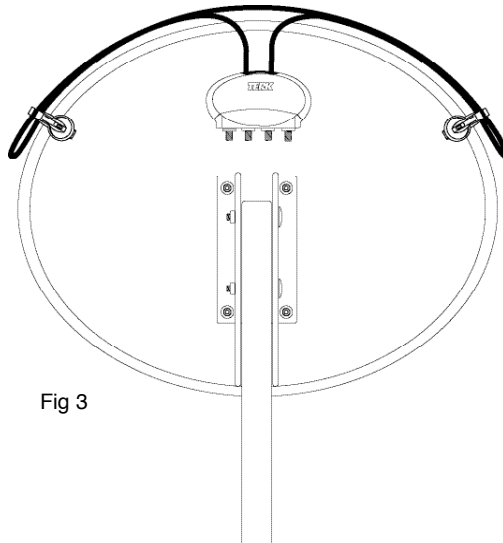

Fig 3
3. Hold the antenna to the back of the dish so that the circular housing is centered with the TERK logo facing out. See Fig 3.